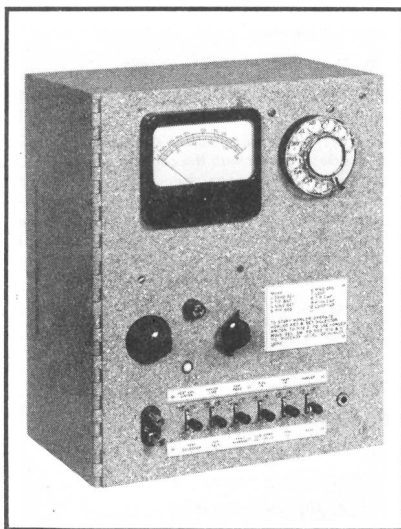

FIGURE 1. Wire Chief's Test Set, Type B
**1.01** This practice provides the description of the S-C Wire Chief's Test Set, Type B, which is used to assist in the testing and troubleshooting of inside and outside plant equipment associated with a dial office. See Figure 1.
a. S-C Part No. 419086-018 is supplied for use with a CDO (community dial office) test selector and is wired in accordance with Figures 1, 3, and 7 of circuit diagram S-419086 (see Figure 2, Sheets 1 and 2, foldouts).
b. S-C Part No. 419086-028 is used with an MDO (main dial office) test selector and is wired as shown in Figures 1, 2, and 3 of circuit diagram S-419086 (see Figure 2, Sheets 1 and 2, foldouts).
**2.03 Physical Characteristics:** The test set is housed in a wooden cabinet with the controls mounted on a hinged metal front panel (see Figure 1), and the assembly is finished with a stone gray multicolored lacquer. Mounting holes drilled in the cabinet rear panel allow for mounting on the end of a main distributing frame, in an equipment bay, or on a wall. Dimensions of the test set are: